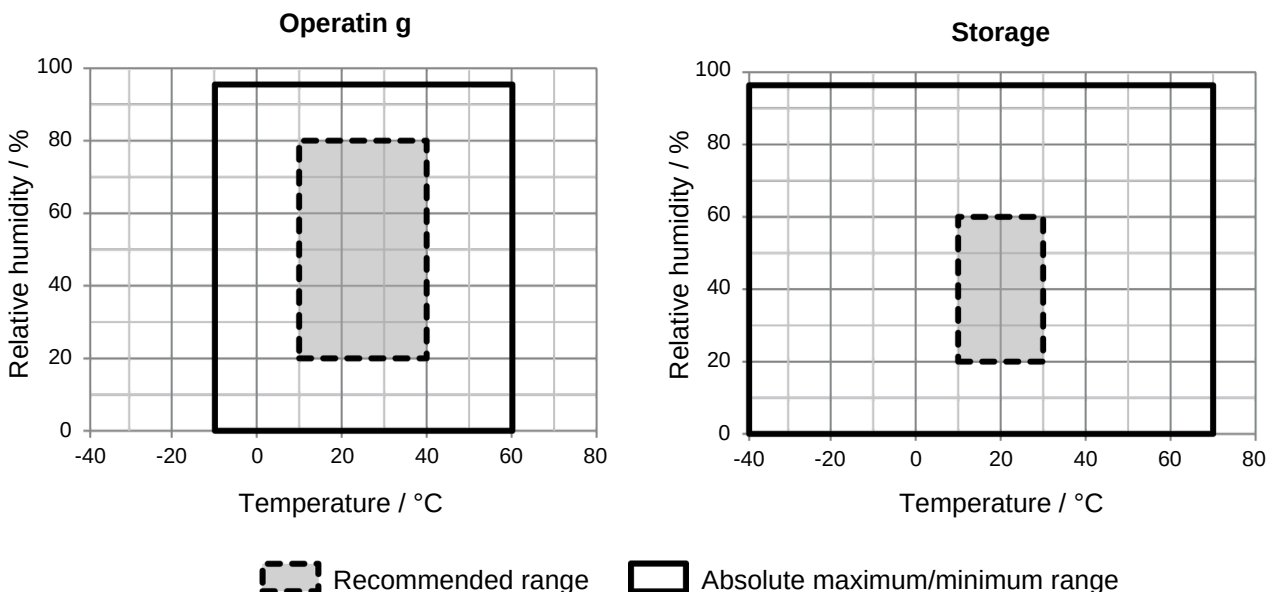

Figure 1. Recommended and absolute maximum/minimum operating and storage conditions for the SEN60
2.7.1 SEN60 Table 8 and Figure 1 show the recommended operating and storage conditions in which all the sensing